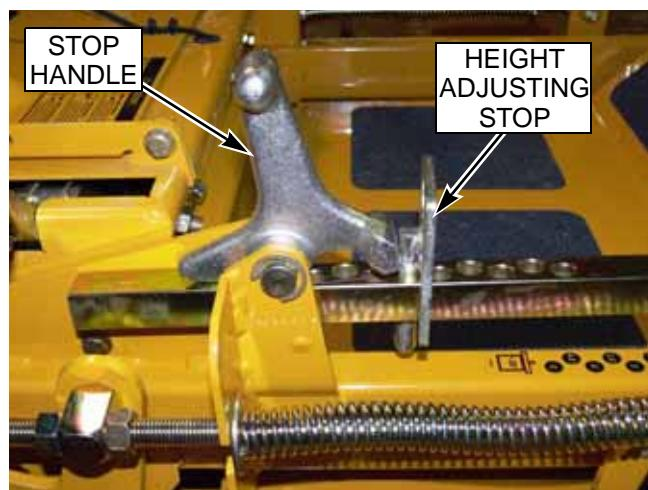

FIG. 62
4. Set cutting height at 3 1/2" in the height indicator by placing the height adjusting stop in the 3 1/2" hole, and turning the height stop so that the pin side is against the stop handle, FIG. 62.